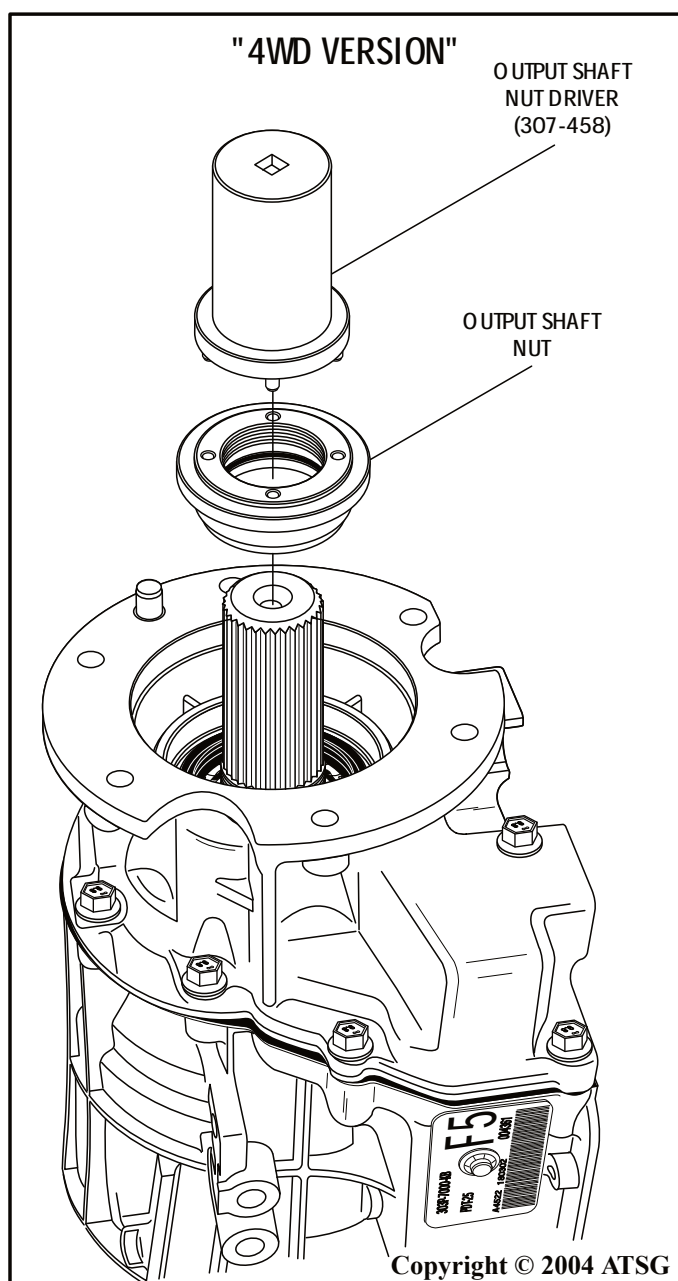

Figure 49
54. Remove the output shaft nut from the output shaft, as shown in Figure 49.